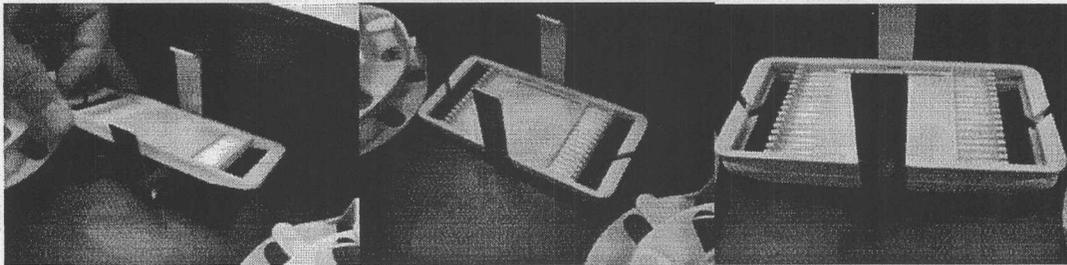

Figure 3: Fusion Organizer Installation
Install fusion splice organizers by placing at a slight angle, then rotate down into a flat position (**Figure 3**). Stack up to 6 organizer into a single 2U Clip.
1. Install splice organizers to the tray approximately as shown in **Figure 3**, if splicing is required. Splice organizers are sold as separate kits in either single or mass fusion configurations.